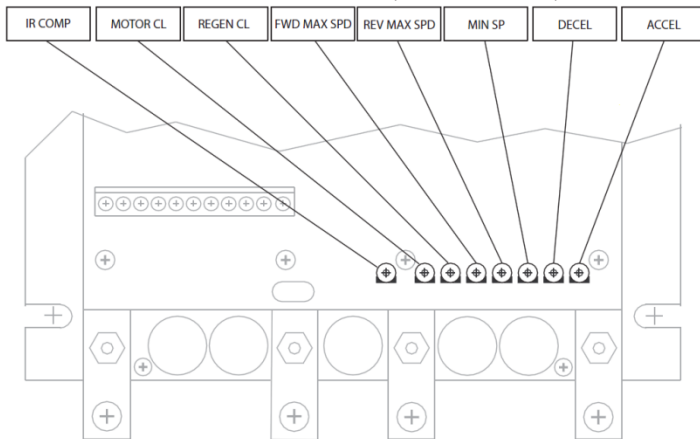

Figure 11. Calibration Trimpot Layout
Each drive is factory calibrated to its maximum armature voltage. The MMP 100A 10-32V is factory calibrated at 170A. Readjust the calibration trim-pot settings to accommodate a motor with a lower armature voltage and current rating. All adjustments increase with clockwise rotation (CW), and decrease with counter-clockwise rotation (CCW). Use a nonmetallic screwdriver for calibration. Each trim-pot is identified on the printed circuit board (see Figure 11 below).